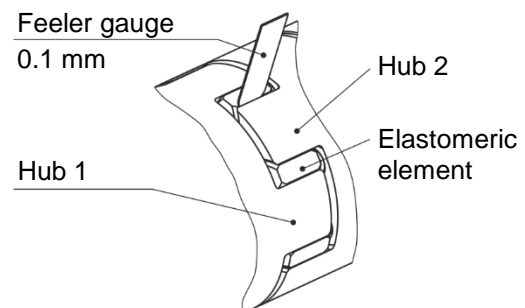

Fig. 21
No abraded particles are allowed on the elastomeric element (7), as the ROBA®-ES is a backlash-free coupling. The gap between two claws must be filled with the elastomer, with no room for backlash. You should not be able to insert a feeler gauge with a thickness of 0.1 mm (Fig. 21).